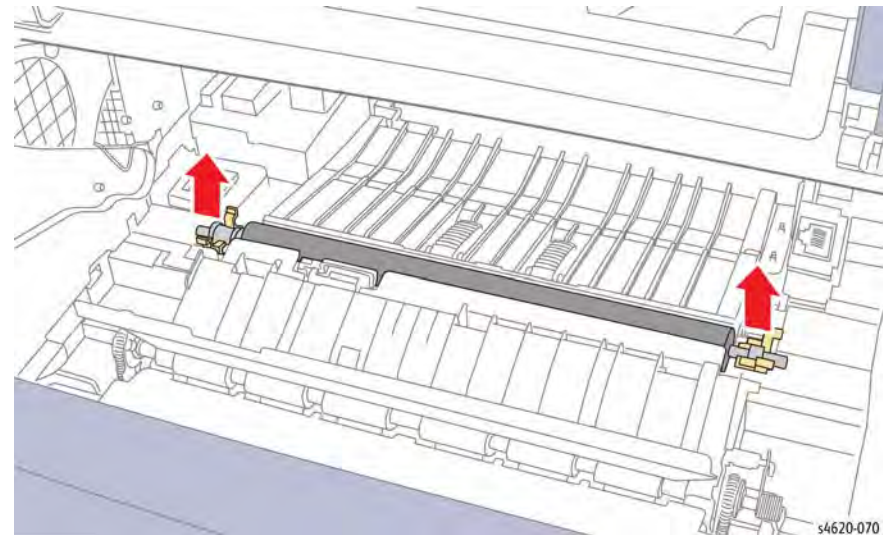

Figure 1 Removing the Transfer Roller
4. Release 2 clips that secure the Transfer Roller and remove the roller, Figure 1.